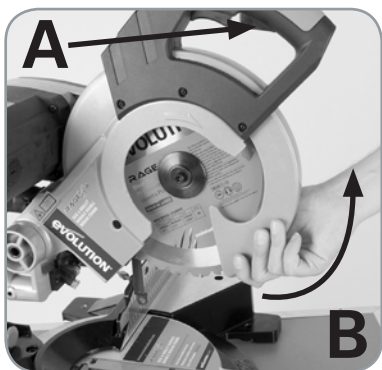

Fig. 38
- Press the lower blade guard locking trigger (A) and rotate the lower blade guard (B) up and into the upper blade guard. (Fig. 38)